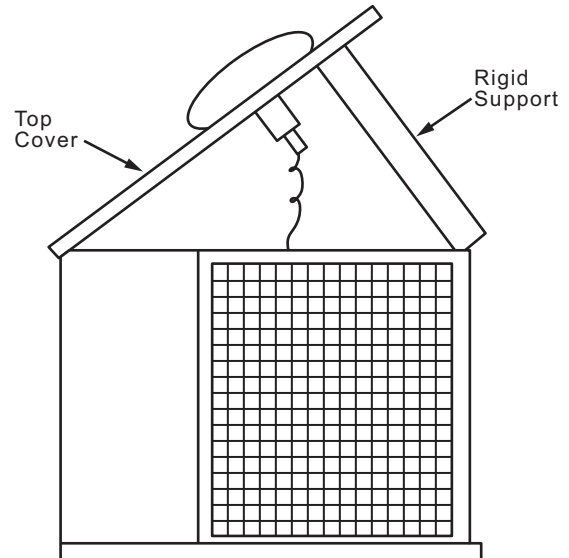

Fig. 29 — Pivot and Support Top Cover
2. Remove screws holding rear corner post and top cover in place. Pivot top cover up 12 to 18 inches (305 to 457 mm) and support with a rigid support. See Fig. 29.